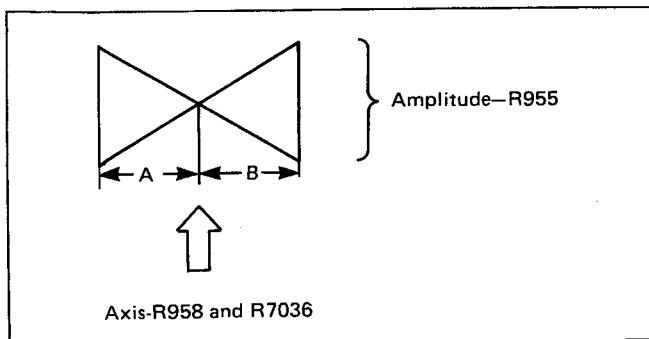

Fig. 22
4) Adjust R955, R958 and R7036 to achieve maximum amplitude and confirm that both side of the bow tie pattern are symmetrical (A, B in Fig. 22).